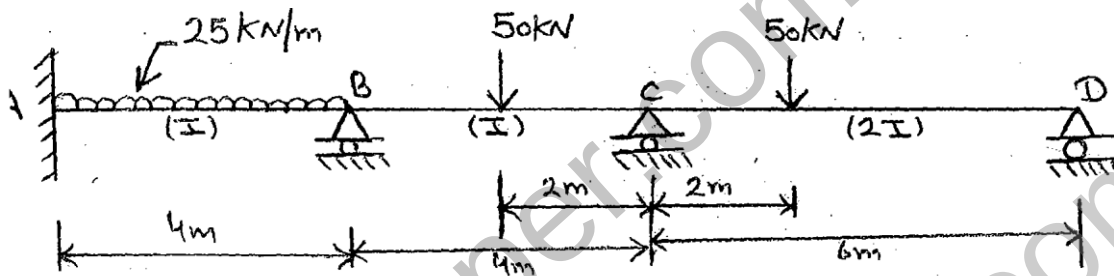

Fig.2
3. Analyse the continuous beam ABCD Shown in figure 2 by slope deflection method and draw bending moment diagram.